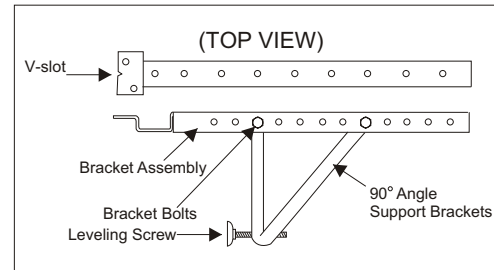
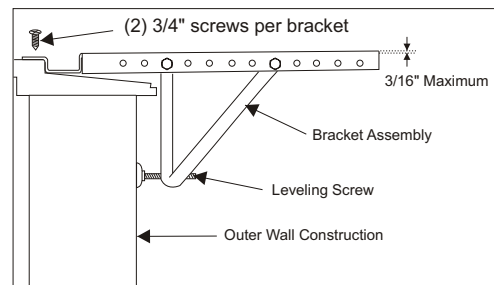
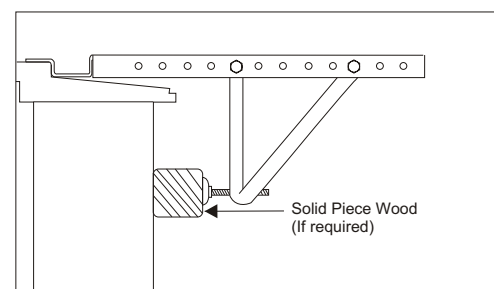

Fig. 5
Fig. 7
Fig. 8
A. Attach the **bracket assembly to 90° angle support brackets** (Fig. 5) using (2) **1 1/2" bolts** Two bolts per bracket. Secure with the (2) **1/4" lock washers** and (2) **1/4" nuts. DO NOT** immediately tighten these bolts as it may be necessary to adjust the depth of the **bracket assembly**, depending on the depth of your window sill. See (Fig. 7). Install the two **leveling screws** into the 90° support brackets. Test the bracket assembly in the window before cabinet installation. If the leveling screws are distanced too far away from the wall to provide stability, it may be necessary for you to fill this area with a solid piece of wood. See (Fig. 8).
C. For proper condensation run-off it will be necessary to adjust the angle/pitch of the window brackets. This is accomplished by adjusting the distance of the leveling screw on the outer wall. The maximum angle/pitch should not exceed more than 3/16". See (Fig. 7).
Use a solid piece of wood to provide stability. This will be required when sills are extra deep. See (Fig. 8).
C. Check to make sure that the cabinet is slanted slightly downward on the outside. If necessary, re-adjust support bracket as shown in (Fig. 7).